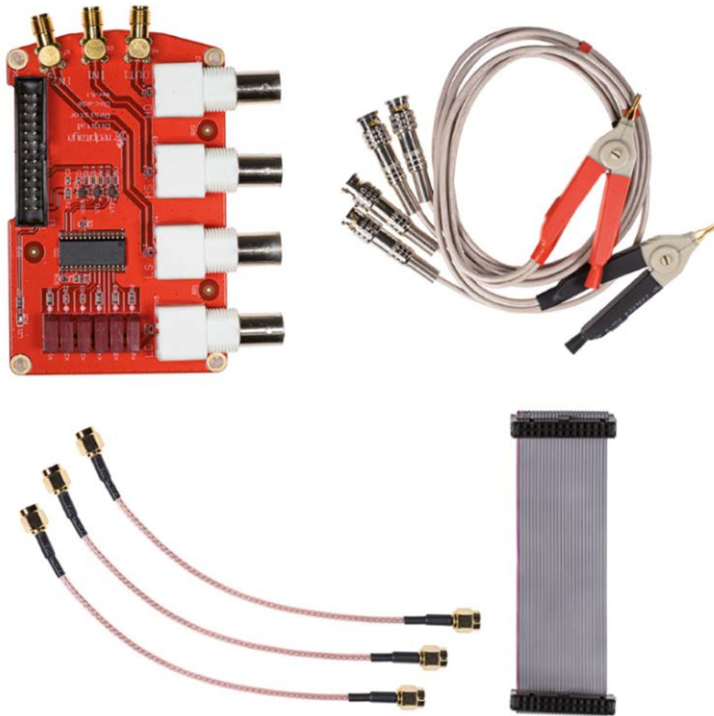

Figure 2.1 Impedance Analyzer Extension Module
The Impedance Analyzer Extension Module (Figure 2.1) is an extension module (sold by Red Pitaya) plus a software/web app on Red Pitaya that lets you use your board as a lab instrument to measure impedance (Z), resistance (R), capacitance (C), inductance (L), and associated parameters, such as phase, Q , dissipation factor, etc. Once the module is present, the measurement interface is accessed via a web browser (Red Pitaya apps are web-based), so you don't need special desktop software.